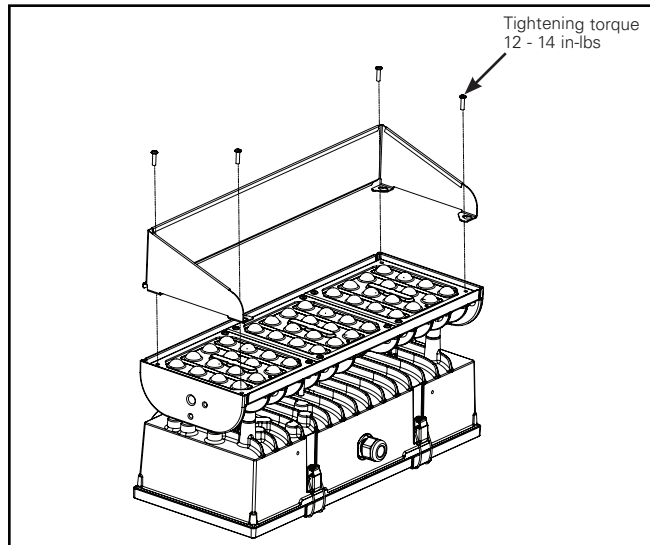

Figure 15.
Visor (Figure 15)
1. Loosen and remove the existing (4) corner 8-32 screws on the face of the fixture (Fig 15) and retain for future reference.
2. Align visor on top of lens clips matching the (4) existing holes.
3. Use the existing (4) 8-32 screws to secure visor.